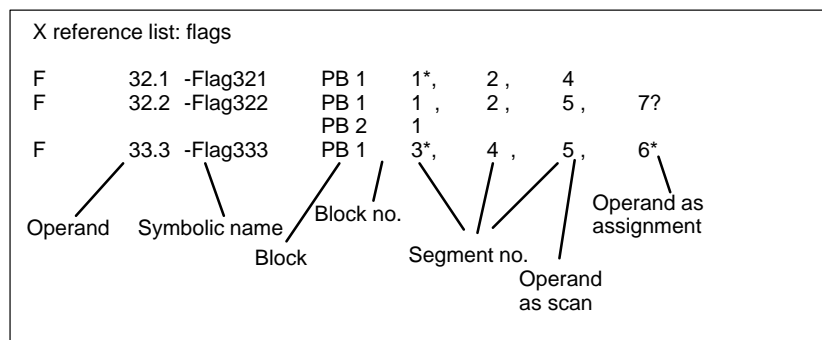

Figure 18-6 Example of a Cross-Reference List
- an identifier showing use (see Figure 18-6).